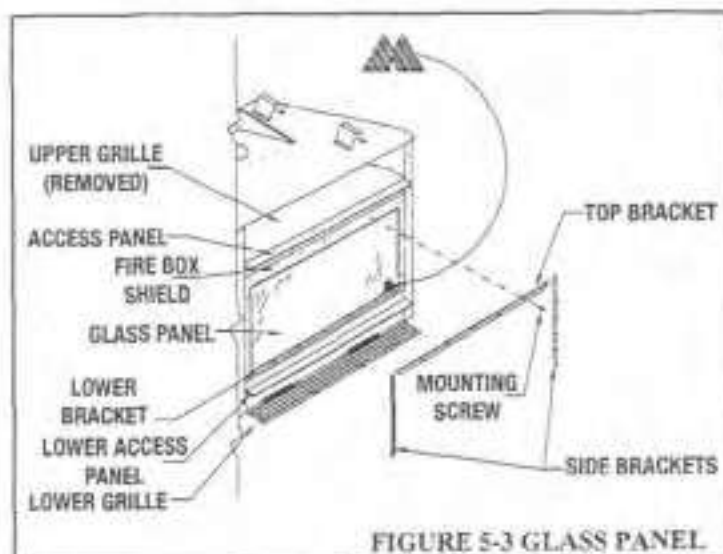

FIGURE 5-3 GLASS PANEL
5. Remove the four screws on the left and right side brackets and set them aside. Refer to Figure 5-3.
WARNING: YOUR FIREPLACE HAS A TEMPERATURE-CUSTOMIZED GLASS PANEL THAT HAS AN INSIDE AND OUTSIDE SURFACE. THE GLASS OVERHEATS AND FRACTURES IF YOU DO NOT INSTALL THE GLASS PANEL AS SHOWN IN FIGURE 5-3.